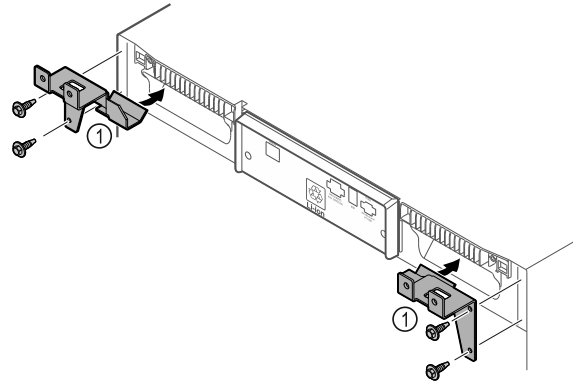

Fig. 10
- ▶ Assemble the retaining parts Fig. 10 (1) with the self-tapping screws on the appliance.